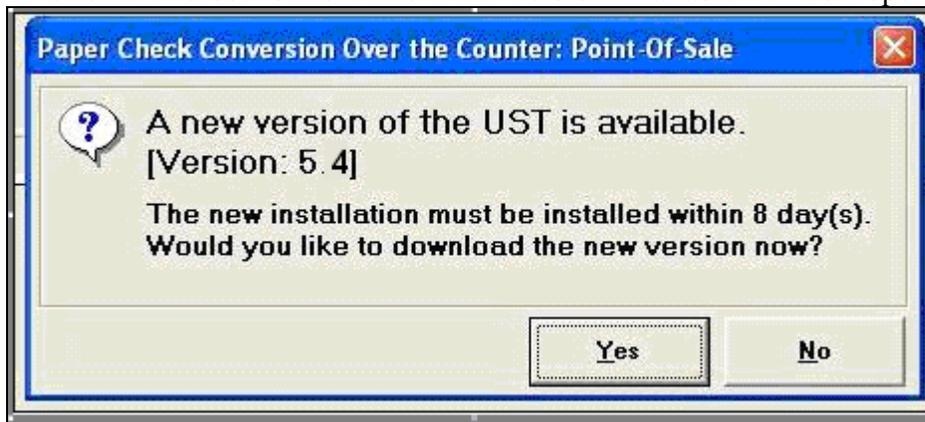

Figure 6.10.4
2. Click the 'Close' button. The 'New Version Available' window opens (Figure 6.10.4)